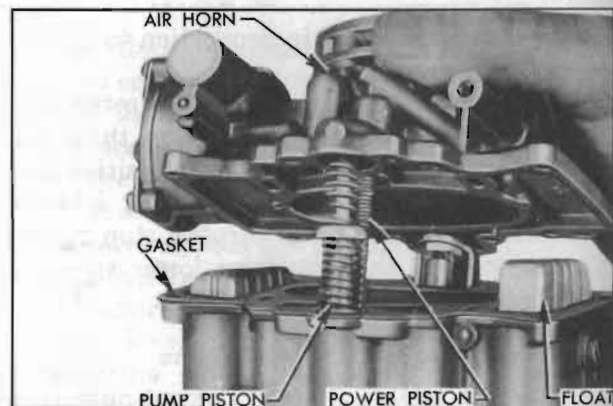

Figure 3-67—Removing Air Horn and Attached Parts
4. Remove screws and carefully lift air horn straight up from main body to avoid damaging the float, pump piston, and vacuum power piston which are attached to air horn. Remove pump piston. See figure 3-67.